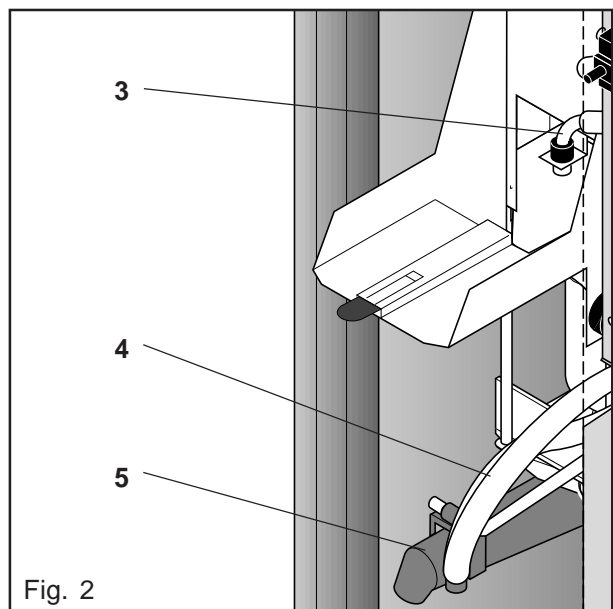

Fig. 2
- Remove the angle of the water inlet for the brewer (3) from the brewer, and push it to the side. (Fig. 2)